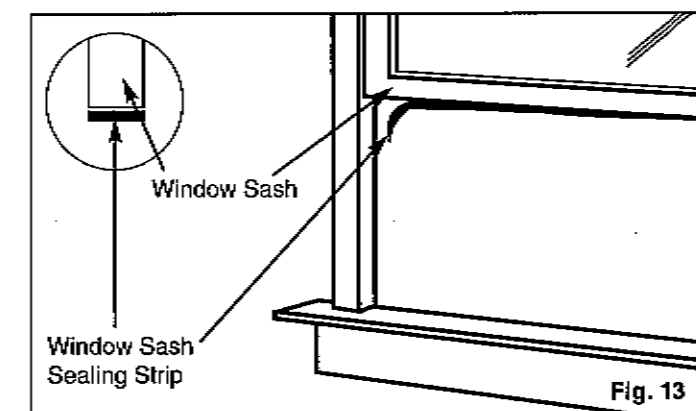

Fig. 13
- Cut the first foam sealing strip to fit the underside of the bottom window sash. Remove the peel-off backing on the foam and attach it to the sash. See Fig. 13.